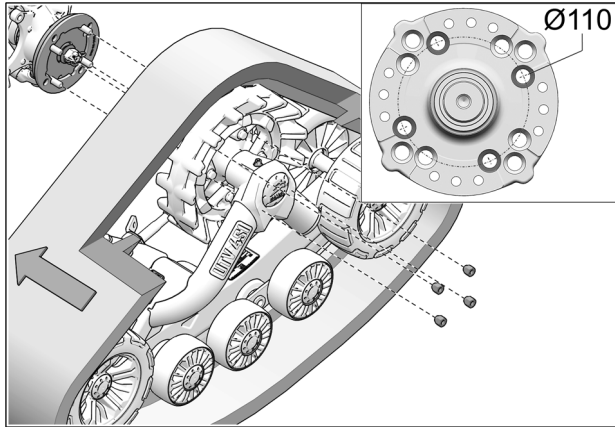

Fig. 19
8. Secure undercarriage to rear hub using the vehicle's wheel nuts. Use bolt circle $\text{Ø}110$ mm. See Fig. 19